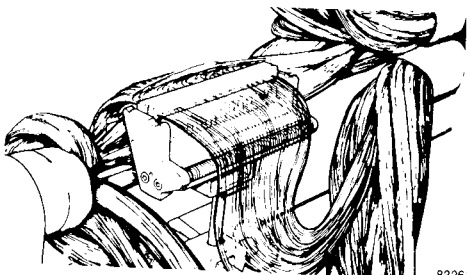

Fig. 118—Pull slack toward cable to be removed.
- h. **Always** place run (or through) wires into **base**, making sure to **pull slack toward cable to be removed**. See Figure 118.